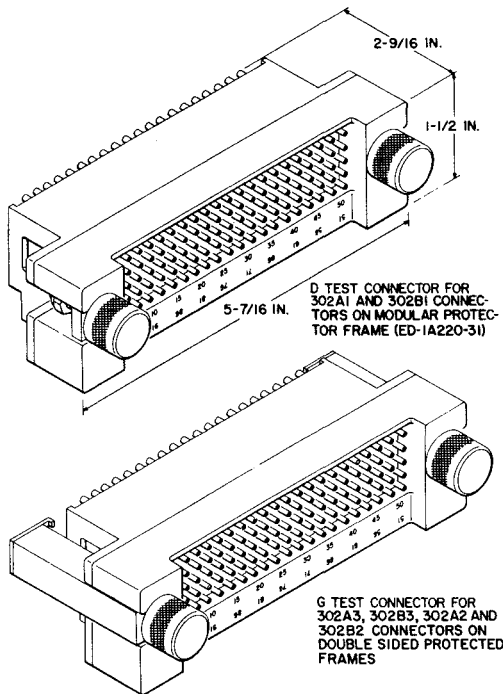

Fig. 2—D and G Test Connector
2.02 The *D test connector (AT-8265)*, shown in Fig. 2, is similar to the G test connector except for the mounting arrangement (Fig. 3). The D test connector mounts on 302 type 1 connectors.